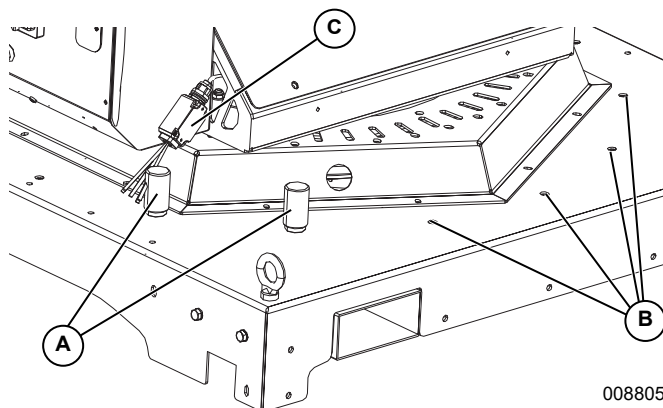

Figure 3-6. Automatic Oscillation
See **Figure 3-6**. When the oscillation system is set to ON, blower rotation is controlled by limited by fixed limiting pins (A). Oscillation range can be adjusted by installing the configurable limiting pins to any hole (B) in the deck. When limiting switch (C) contacts a limiting pin the blower reverses direction.